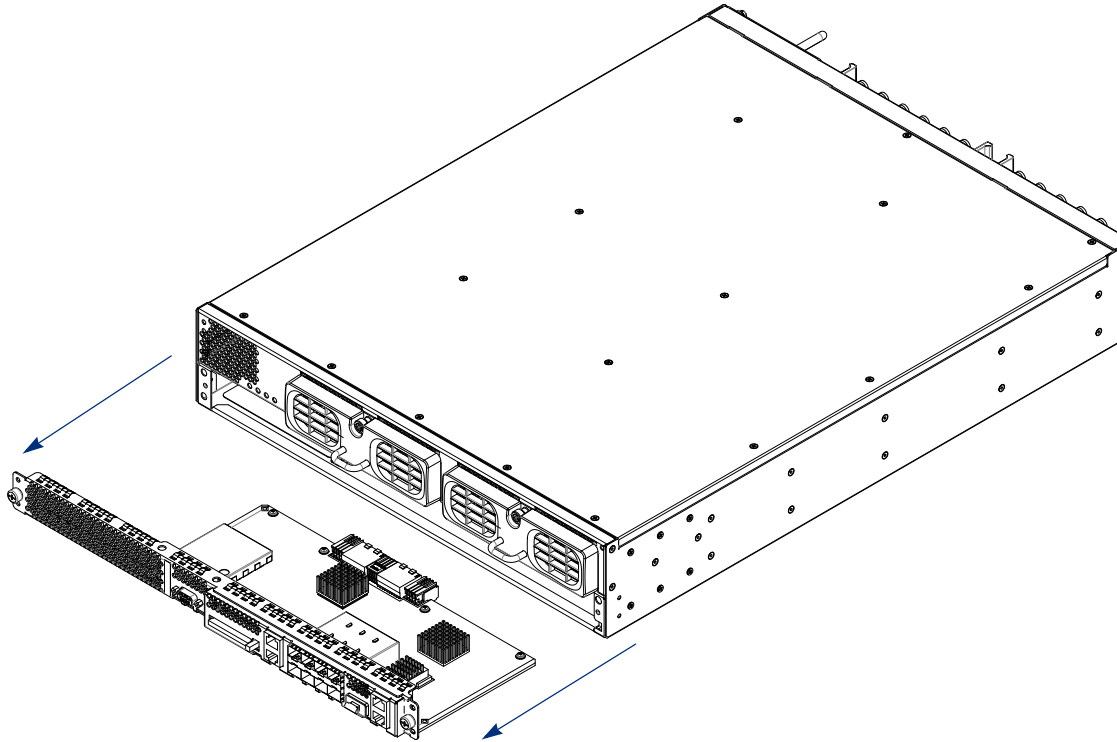

Figure 296. GBP3 module removal
5. Firmly grasping the screws, slide the GBP3 module out of the bay, as shown in Figure 296.